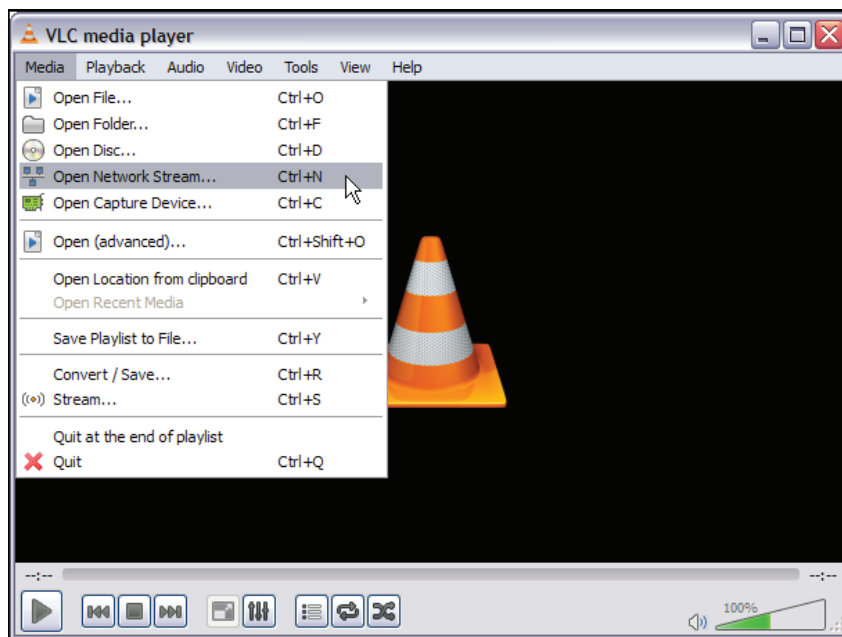

Figure 105. VLC Media Player – Open a Network Stream
- The VLC media player appears. From the **Media** menu, select **Open Network Stream** (see figure 105).